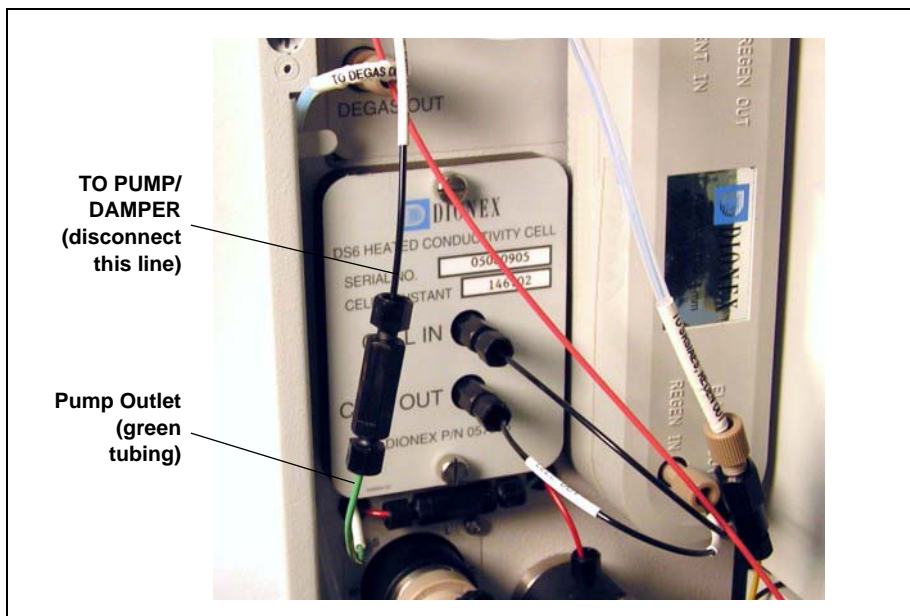

Figure 5-63. Disconnect the Cartridge Inlet and Pump Outlet
2. Disconnect the EluGen cartridge inlet line (labeled **TO PUMP/DAMPER**) from the coupler that connects it to the green pump outlet line (see Figure 5-63).